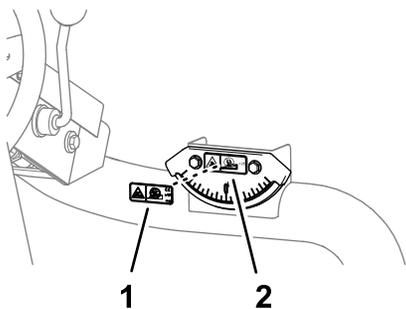

Figure 39
1. Wipe clean the tilt decal on the slope indicator with alcohol, and allow the decal to dry (Figure 39).
2. Remove the backing and apply the CE tilt danger decal to the tilt decal on the slope indicator (Figure 39).